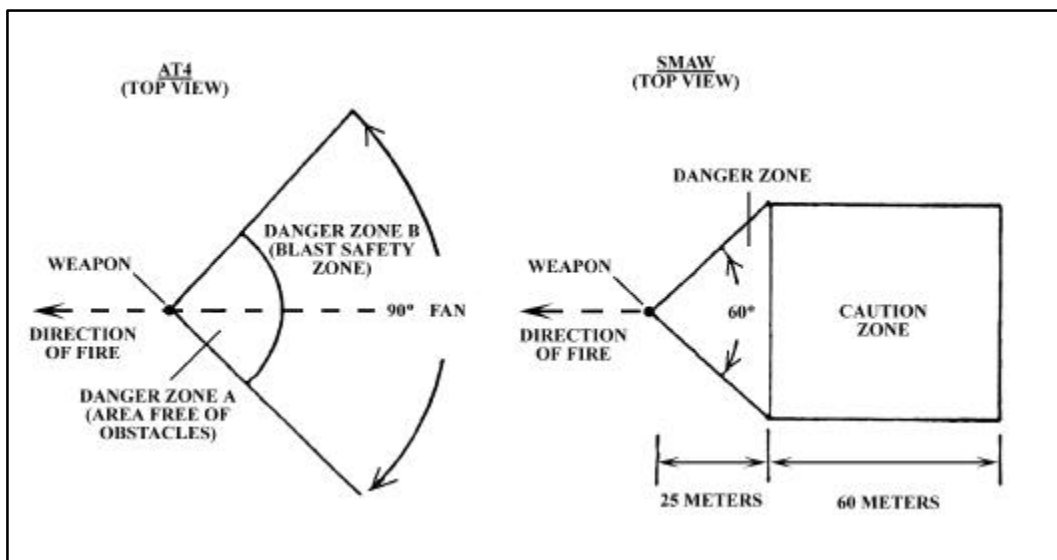

Figure B-4. Backblast Areas of Light Recoilless Weapons in the Open
(5) Modern IFVs such as the BMP-2 and the BTR-80 have significantly improved frontal protection against shaped-charge weapons. Many main battle tanks have some form of reactive armor in addition to their thick armor plate. Head-on, ground-level shots against these vehicles have little probability of obtaining a kill. Even without reactive armor, modern main battle tanks are hard to destroy with a light antiarmor weapon.
(6) The easiest technique to improve the probability of hitting and killing an armored vehicle is to increase the firing depression angle. A 45-degree downward firing angle doubles the probability of a first-round hit as compared to a ground-level shot.
b. Backblast. Backblast characteristics must be considered when employing all recoilless weapons. During combat in built-up areas, the backblast area in the open is more hazardous because of the loose rubble and the channeling effect of the narrow streets and alleys. Figure B-4 shows the backblast areas of Marine light recoilless weapons in the open.